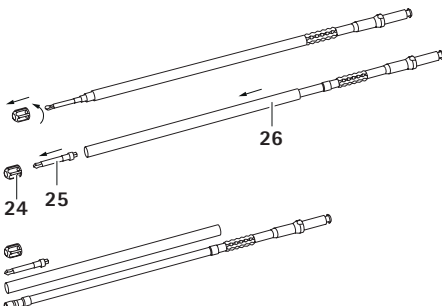

Fig. 1 Disassembling ME013R and ME016R
- ▶ Remove the soft tissue protection sleeve **26** from the shaft, see Fig. 1.